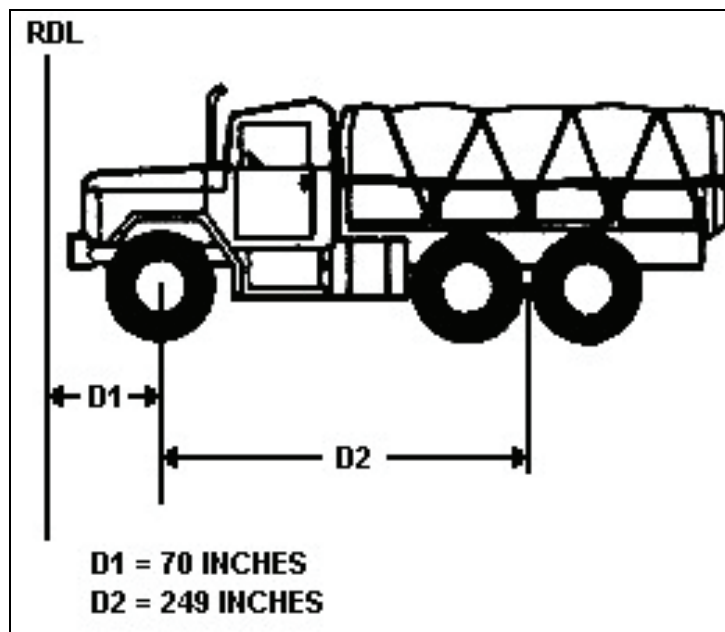

Figure 3-8. Determining Axle Distance for Tandem Axle Vehicles
4. Determine axle distance for tandem axle vehicles (see Figure 3-8).